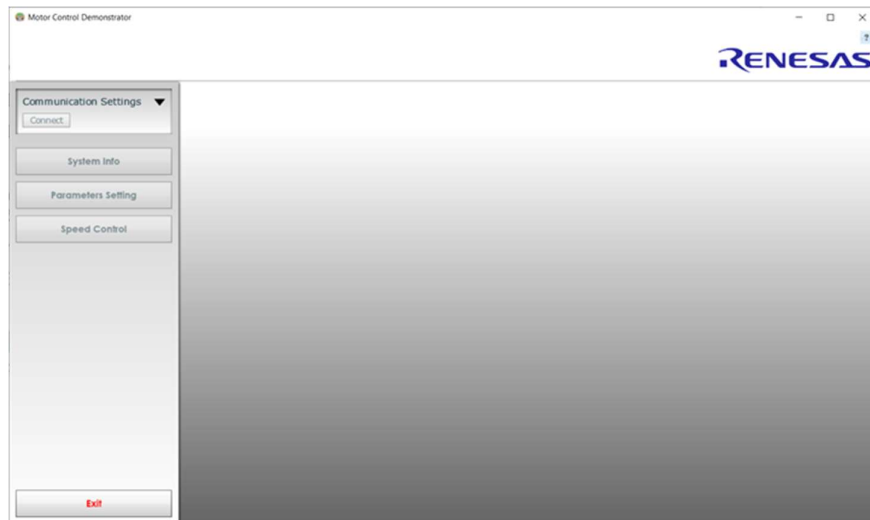

Figure 5. GUI Startup Screen
2. Select "Parameters Settings" (see Figure 5).
Important note: the value for “21. Encoder Offset” parameter is detected during the self-tuning of the kit. If the connection of the rotating board (with the 2 HEX (Allen) screws) is modified, the Encoder Offset needs to be readjusted by clicking the “Motor Identification” (see Figure 5). It checks the motor parameters and recalculates the IPS2200 position sensor offset (in full degrees).